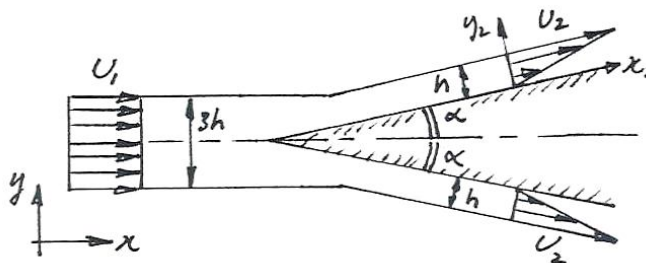

Figure P3.20
3.20 A steady water jet of density ρ is split in half as it encounters a wedge of included angle 2α and constant width w , as shown in Figure P3.20. For the velocity distributions given in the diagram, find the force required to hold the wedge in place in terms of U_1 , h , α , and the density of water ρ , assuming that the viscous effects and the weight of the water and wedge are negligible and the pressure is uniform everywhere.